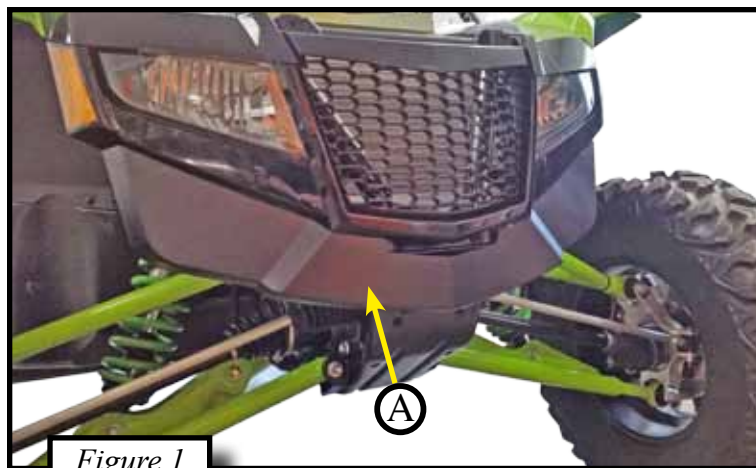

Figure 1
1. Remove the front plastic fascia (A) from your machine shown in Figures 1 & 2. Set plastic and hardware aside for later.
4. Reinstall front plastic fascia (A) from Step 1 Figures 1 & 2